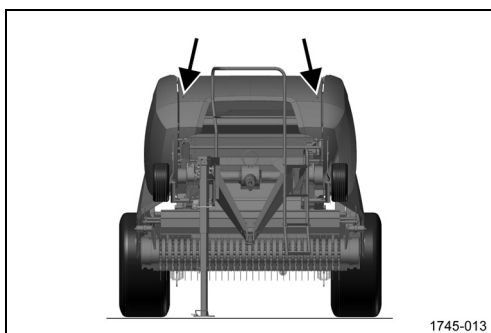

Figure 7
- Catches at the front guard casing: Figure 7